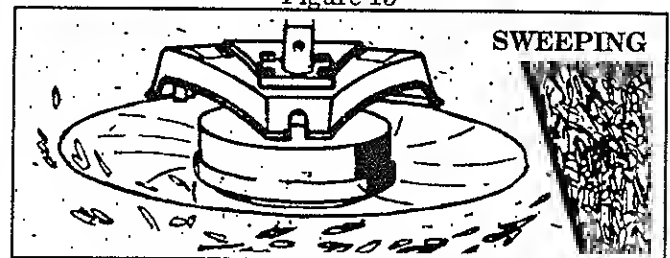

Figure 16
4. **SWEEPING** – Figure 16. The fanning action of the rotating line can be used for a quick and easy clean up. Keep the line parallel to and above surfaces being swept and move tool from side to side.